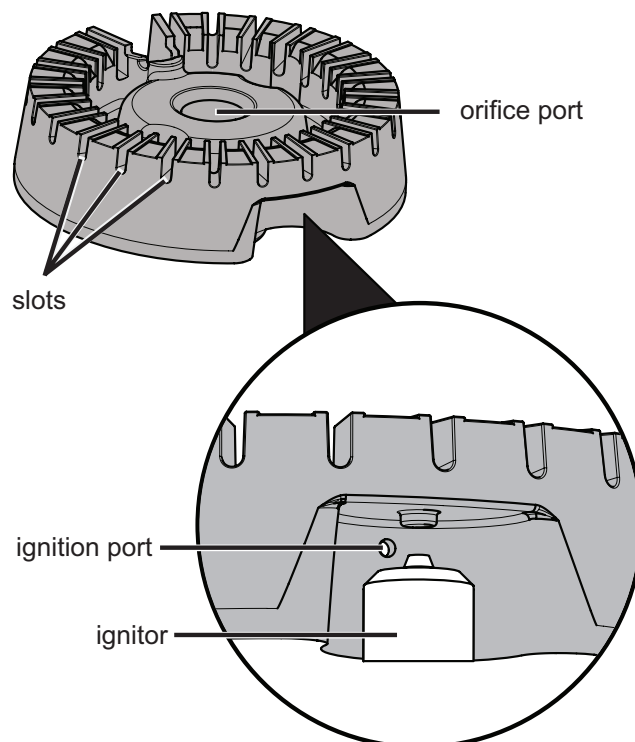

Figure 16: Cooktop cleaning
3. Use a toothbrush to clean all over the burner head (see Figure 16).
4. Use the toothbrush to clean the slots and holes in the burner (see Figure 16).
5. Use a needle or fine wire to clean out the ignition port (see Figure 16).